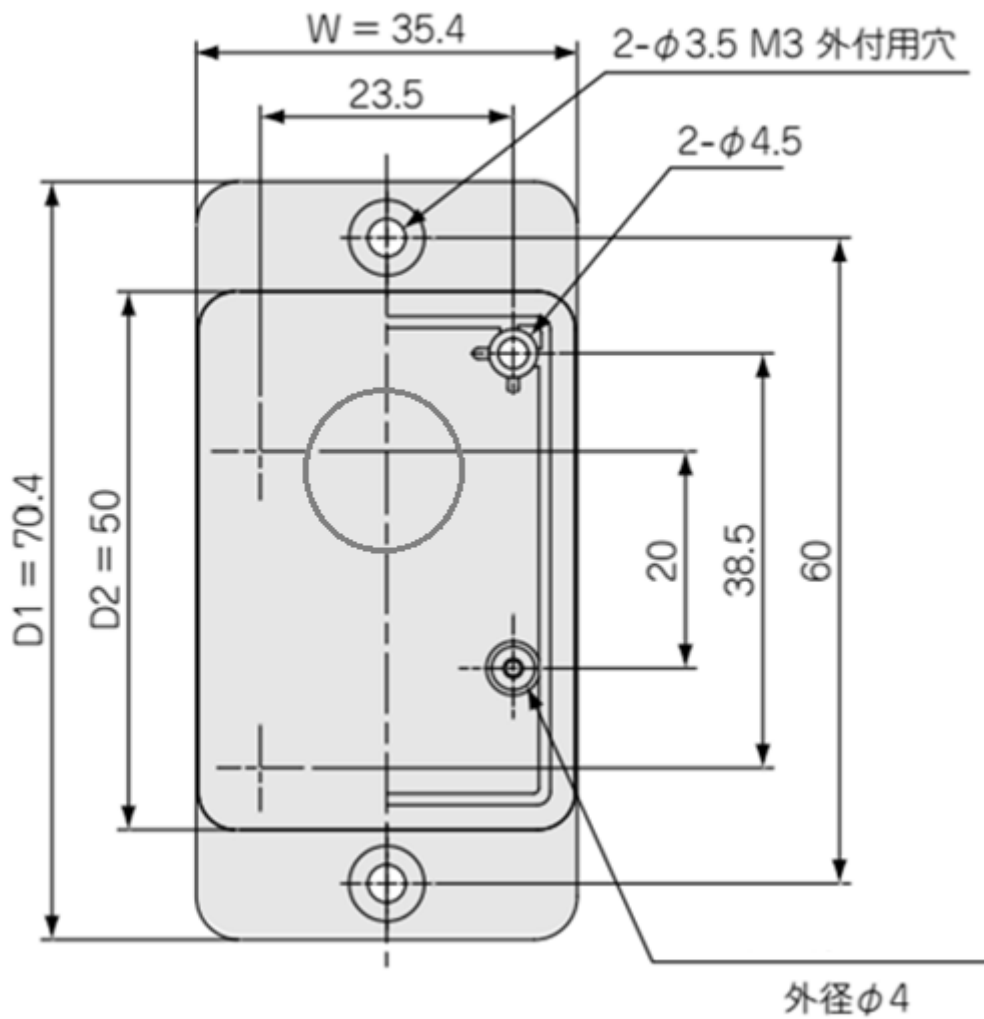

Figure 4 Enclosure Dimensions & Screw Hole Specifications
- Enclosure Dimensions: (see Figure 4)